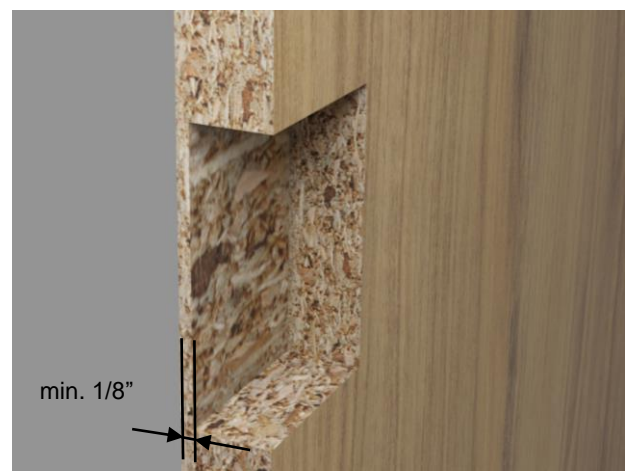

Figure 21
- In the case of blind holes in the board (Fig. 21), make sure that a residual thickness of 1/8" is maintained.